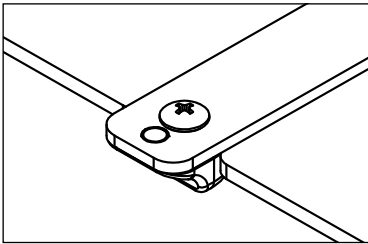

Fig. 2
2. Insert the ends of 2 Locating Bars into the Varian Exact®-compatible index notches on the CT Overlay 1260 mm (typically 9 index notches) apart, and snap the Locating Bars into place. (Fig. 2 & 3)